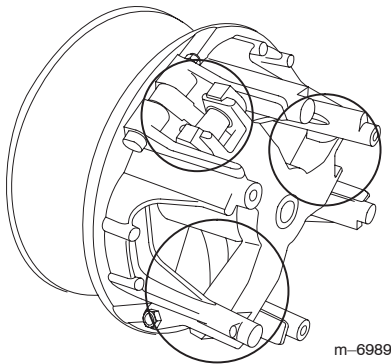

Figure 57
- Lubricate the moving parts in the areas circled in Figure 57 using Toro Dry Lubricant Spray, available through your Authorized Toro Dealer or Distributor.